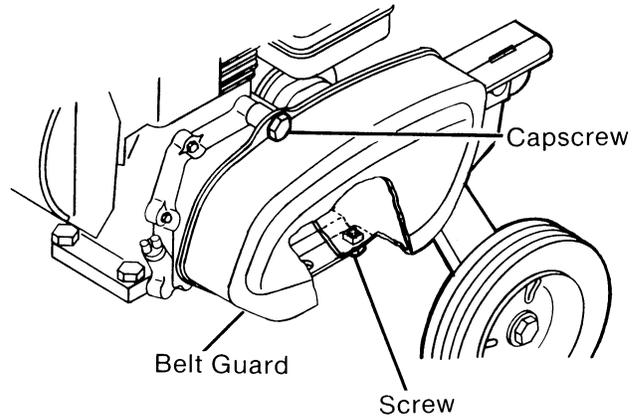

FIG. 16
- A. Remove belt guard cover, which is secured with two screws. (Fig. 16)